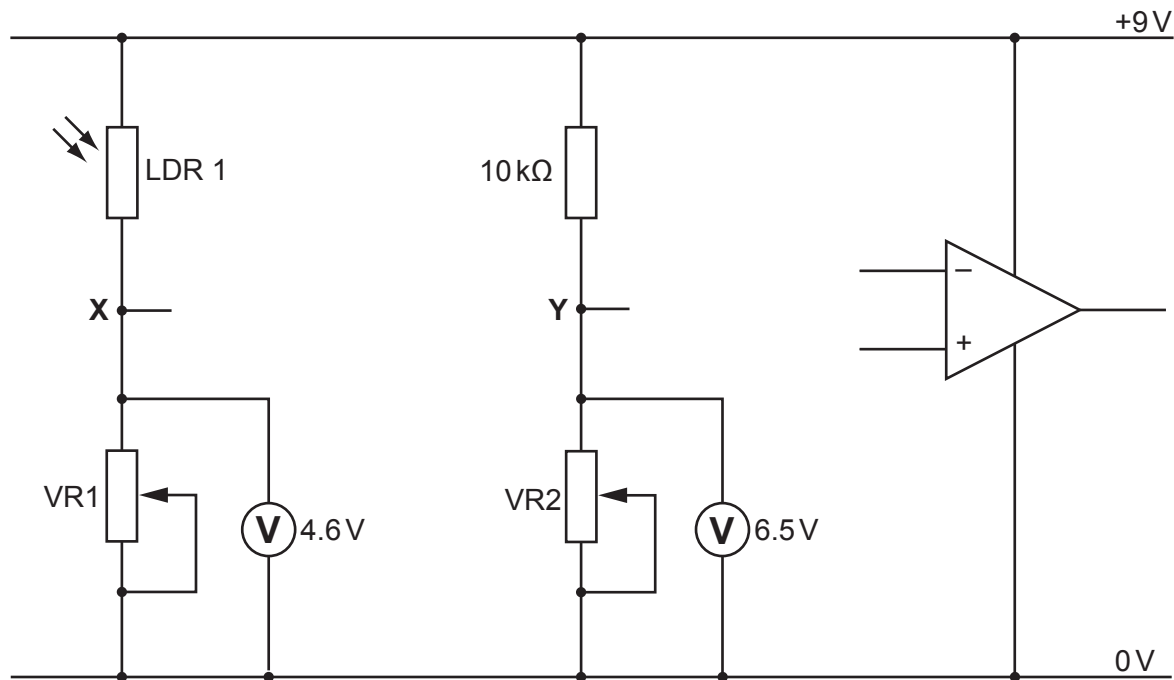

Fig. 12.3
- (b) Fig. 12.3 shows part of a circuit for a light operated switch which will give a high output in the dark.
- (i) On Fig. 12.3 make the following connections: